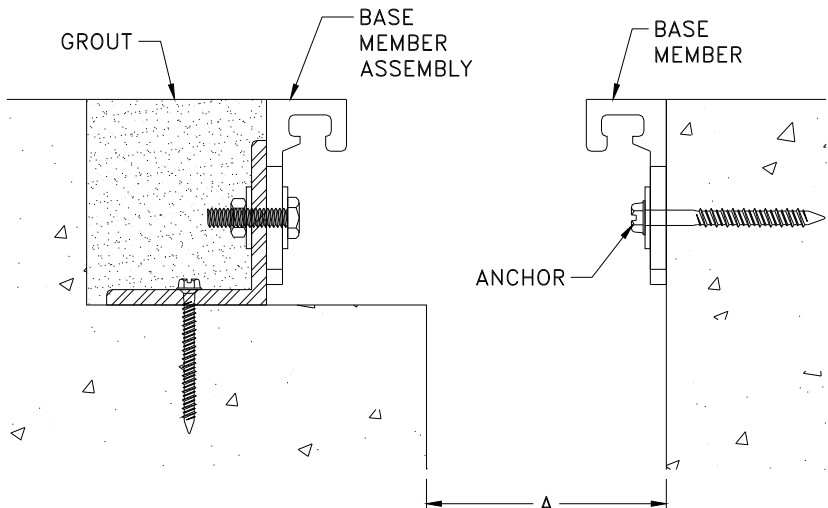

Figure 12
STEP 21. Place grout (by others) continuously between the base member assemblies and the blockout edge (see Figure 12). Install the grout in accordance with the grout manufacturer's written instructions.